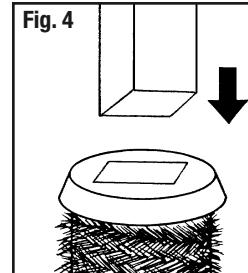

Fig. 4
6. Push bottom of tree top into green plastic "pole cap" at top of center pole until it is firmly seated (Figure 4). Assembly is now complete.
For larger trees with middle section, carefully insert middle section pole(s) into bottom section pole (Figure 4) as instructed in **SPECIAL NOTE ABOUT GIANT TREES** below. Then insert top section into pole cap. *Optional:* You may want to lubricate middle section pole ends prior to assembly. This will make sections easier to separate when disassembling for storage.
4. Close fuse compartment by sliding access cover back in towards cord side of plug (Figure 4).